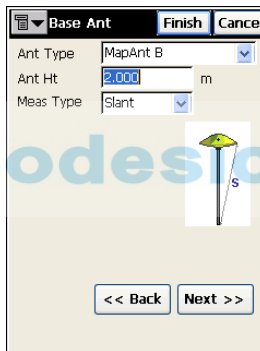

Figure 2-9. Configure the Base Antenna
7. On the **Base Ant** screen (Figure 2-9), select the type of antenna used and set measurement parameters. Press **Next**.